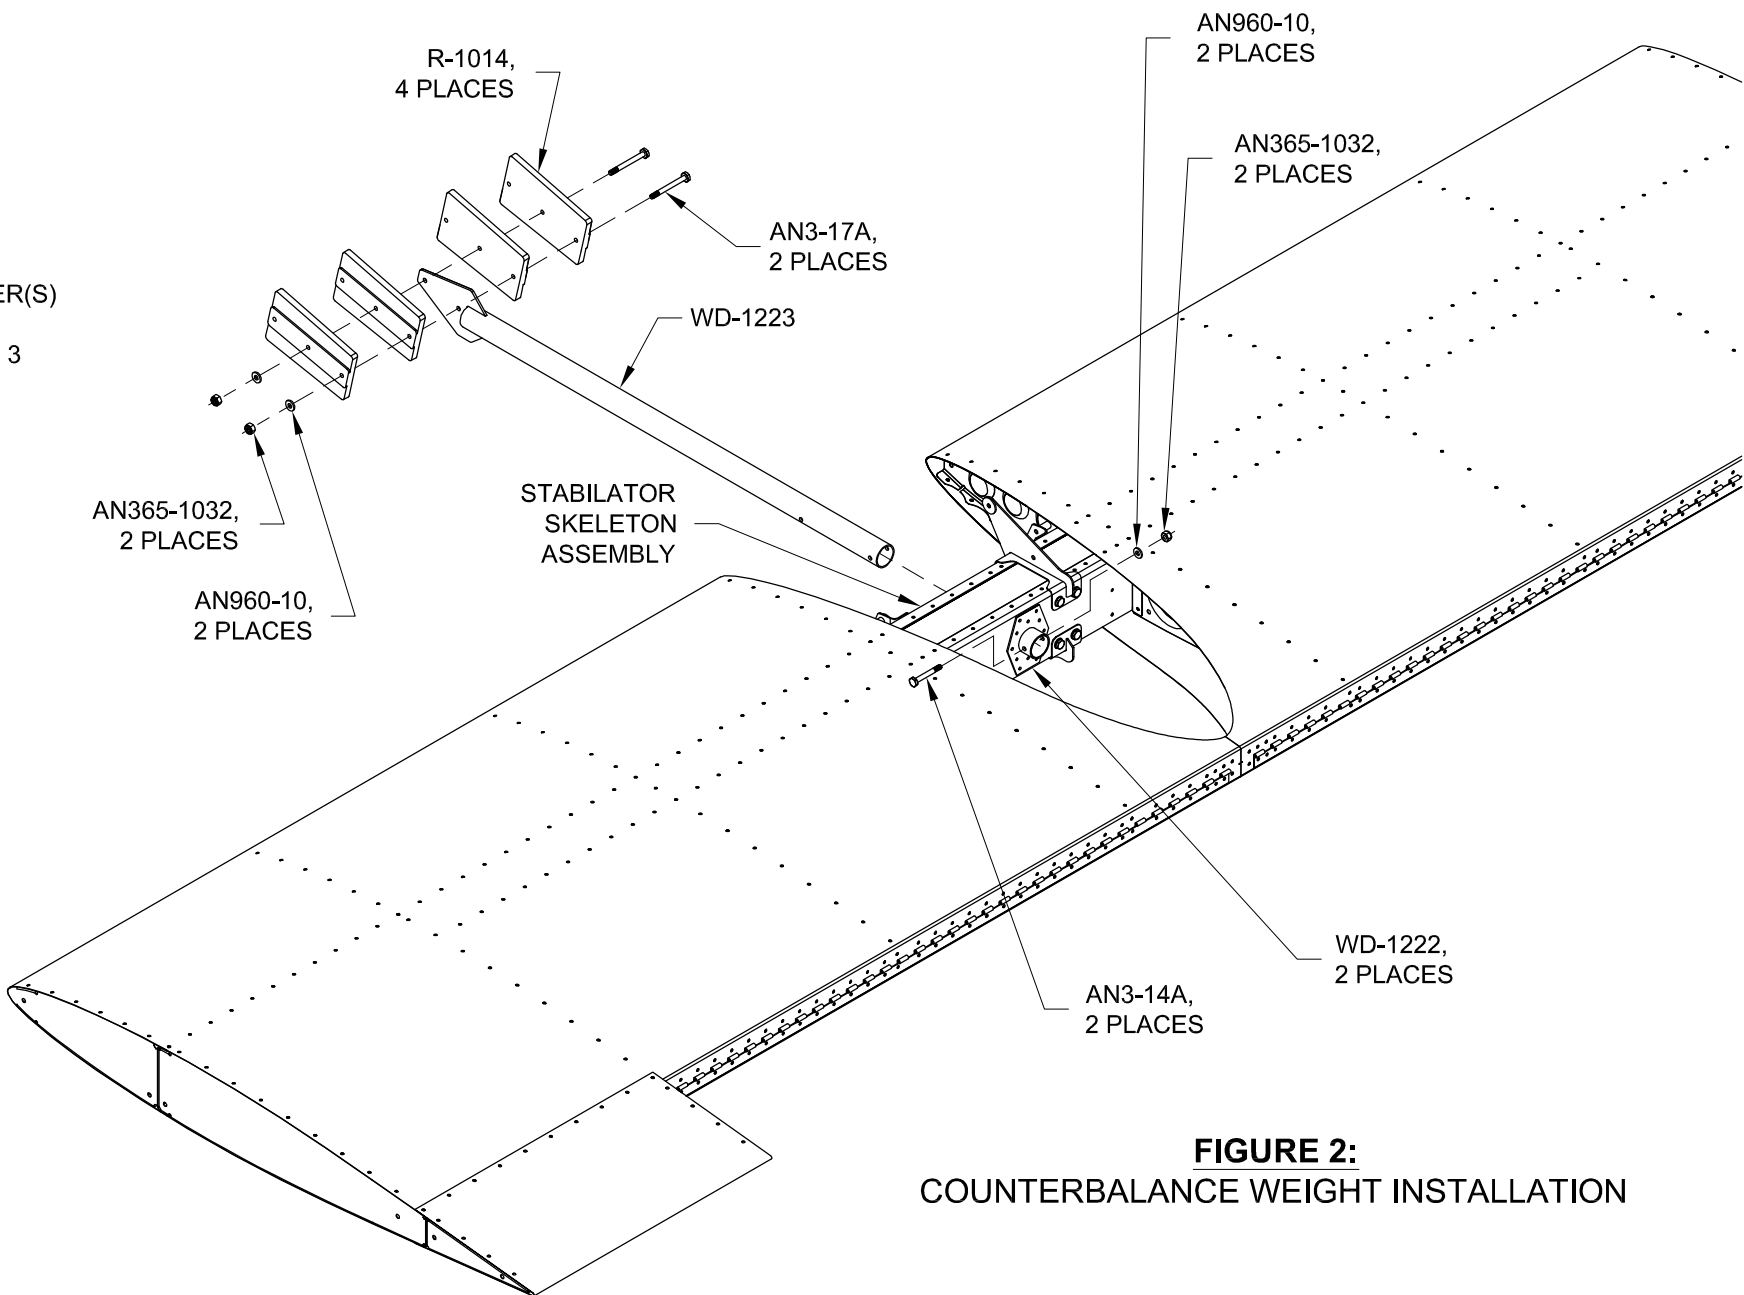

FIGURE 2:
NOTE: Figure 2 illustrates the hardware for the aft counterbalance bracket. The forward counterbalance bracket hardware fastens through the counterbalance arm in the same method shown.
Step 6: Temporarily install the WD-1223 Counterbalance Arm to each of the WD-1222 Counterbalance Brackets using the hardware called out in Figure 2.
Step 8: Install the R-1014 Counterbalance Weights to the WD-1223 Counterbalance Arm with the hardware called out in Figure 2.